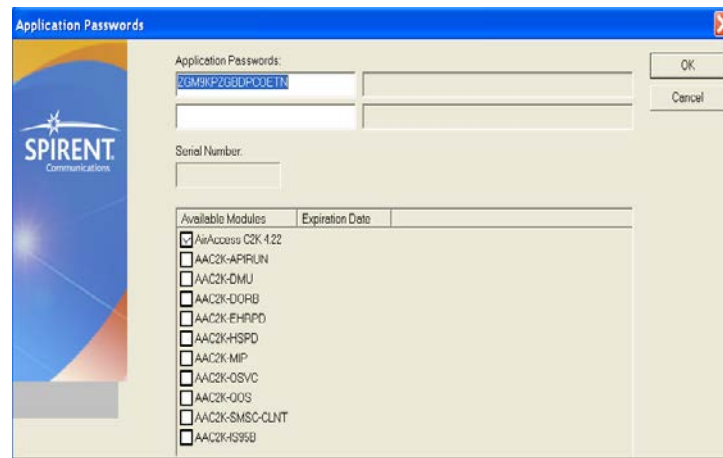

Figure 2-12: Entering the AirAccess C2K Password
2. Select **Help>Enter Application Password**. The *Application Password* window displays, as shown in Figure 2-12.